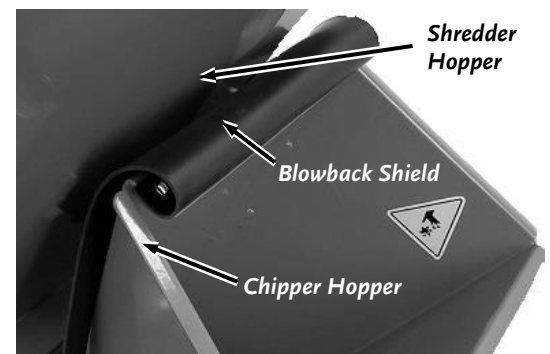

Figure 29
2. You can gain access to the Chipper Knife and Wear Plate By tucking the Blowback Shield between the Shredder Hopper and the Chipper Hopper (**Figure 29**)